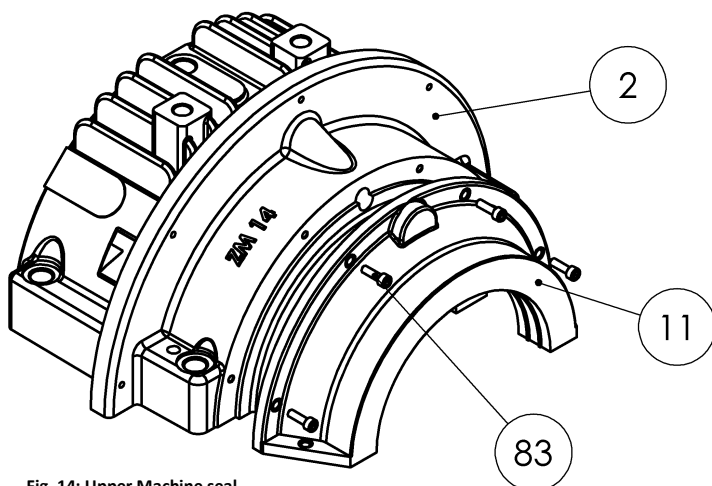
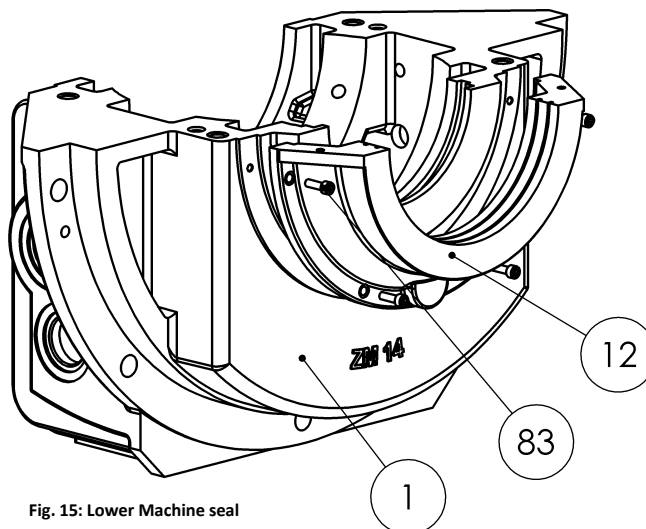

Fig. 14: Upper Machine seal
Fig. 15: Lower Machine seal
- Place the lower part of the machine seal (12) on the bottom part of the housing (1) (Fig. 15).
- Tighten the screws (83) to the specified torque values.
- Place the upper part of the machine seal (11) on the top part of the housing (2) (Fig. 14).